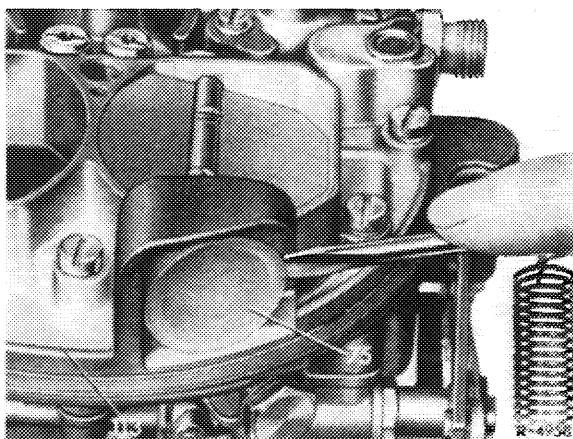

Fig. 07-3/1
1 Remove carburetor cover (113). Force closing cap (75) off (Fig. 07-3/1).